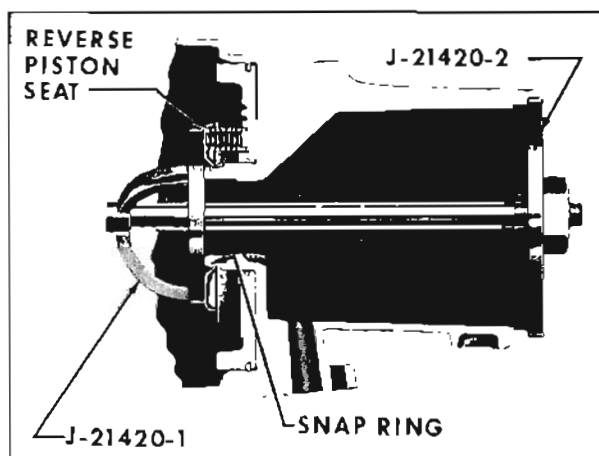

Fig. 6-420 Installing Snap Ring
4. Using J-21420-1 and J-21420-2 compress piston return seat so snap ring may be installed with J-5586 Pliers. (Fig. 6-420)